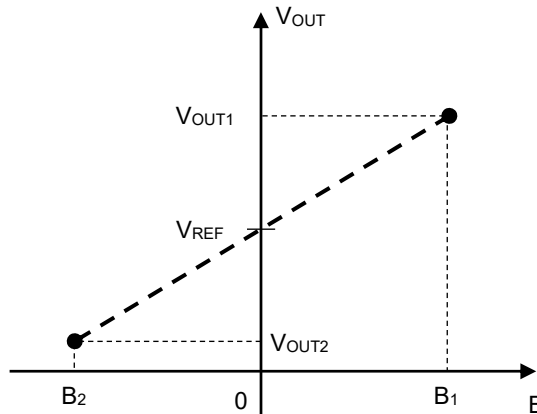

Figure 19
Figure 19 shows the relationship between the magnetic flux density (B) and output voltage (V_{OUT}). Sensitivity (S) is the slope of the output voltage (V_{OUT}) versus the magnetic flux density (B). The Sensitivity is calculated by the following formula from the output voltage = V_{OUT1} when the magnetic flux density = B_1 and the output voltage = V_{OUT2} when the magnetic flux density = B_2 .